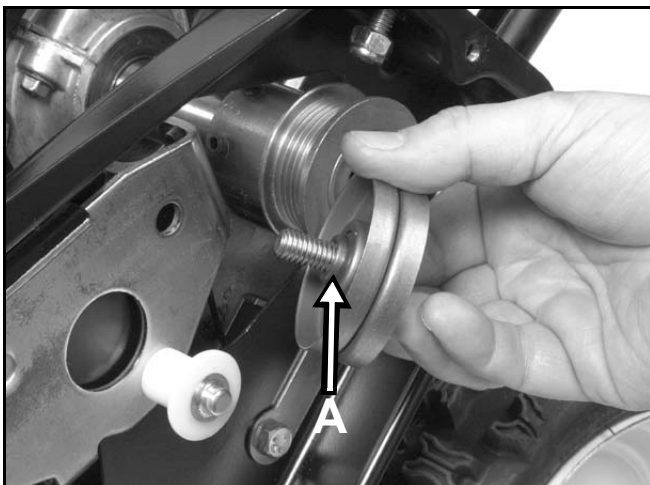

Figure 50
3. The idler pulley must be installed with the longer hub towards the brake arm (Figure 50). If it is installed backwards, it will not rotate when tightened down. Torque the shoulder bolt to 170 - 250 in. lbs. (1920 - 2824 N·cm).